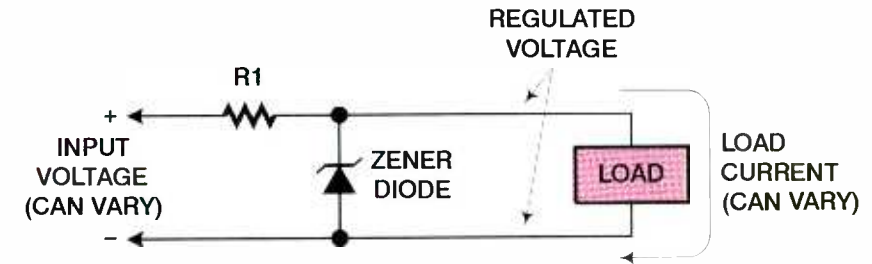

Fig. 1. A Zener shunt regulator is used mostly for low currents (a few milliamps or less). The Zener diode consumes the current not sent to the load.
**A** See Fig. 1 for the circuit and the accompanying sidebar for the formulae to do the calculations. Yours is a relatively high-power circuit, and a series regulator would work better, but let's do the calculations for a Zener first.